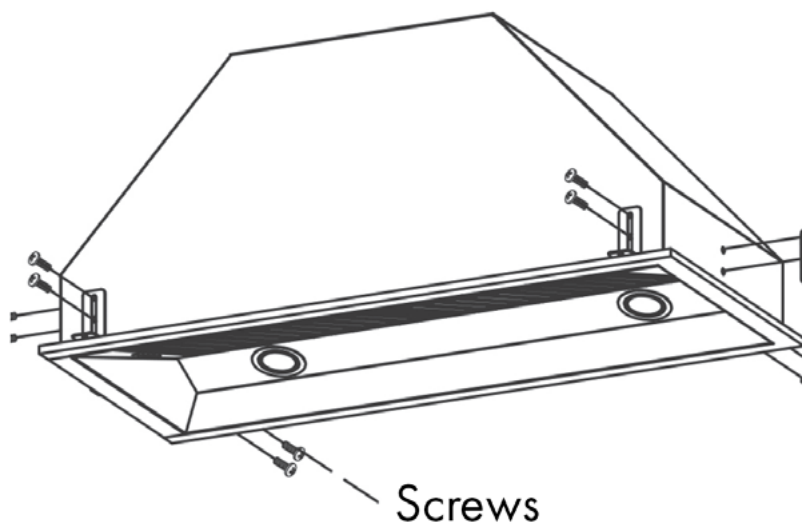

Figure 2
2. Using L brackets and screws, attach L brackets to each side of the insert. *Figure 2*